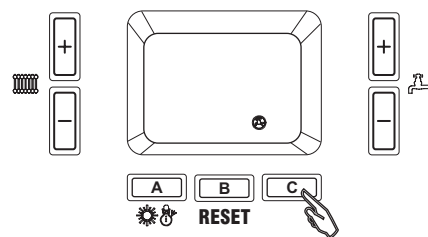

Fig. 5.9
**DHW exclusion** (☹) - With the boiler set up for DHW heating, press button 'C' momentarily to exclude the DHW heating mode operation. To return to the DHW heating mode, press button 'C' again as shown in Fig. 5.9.